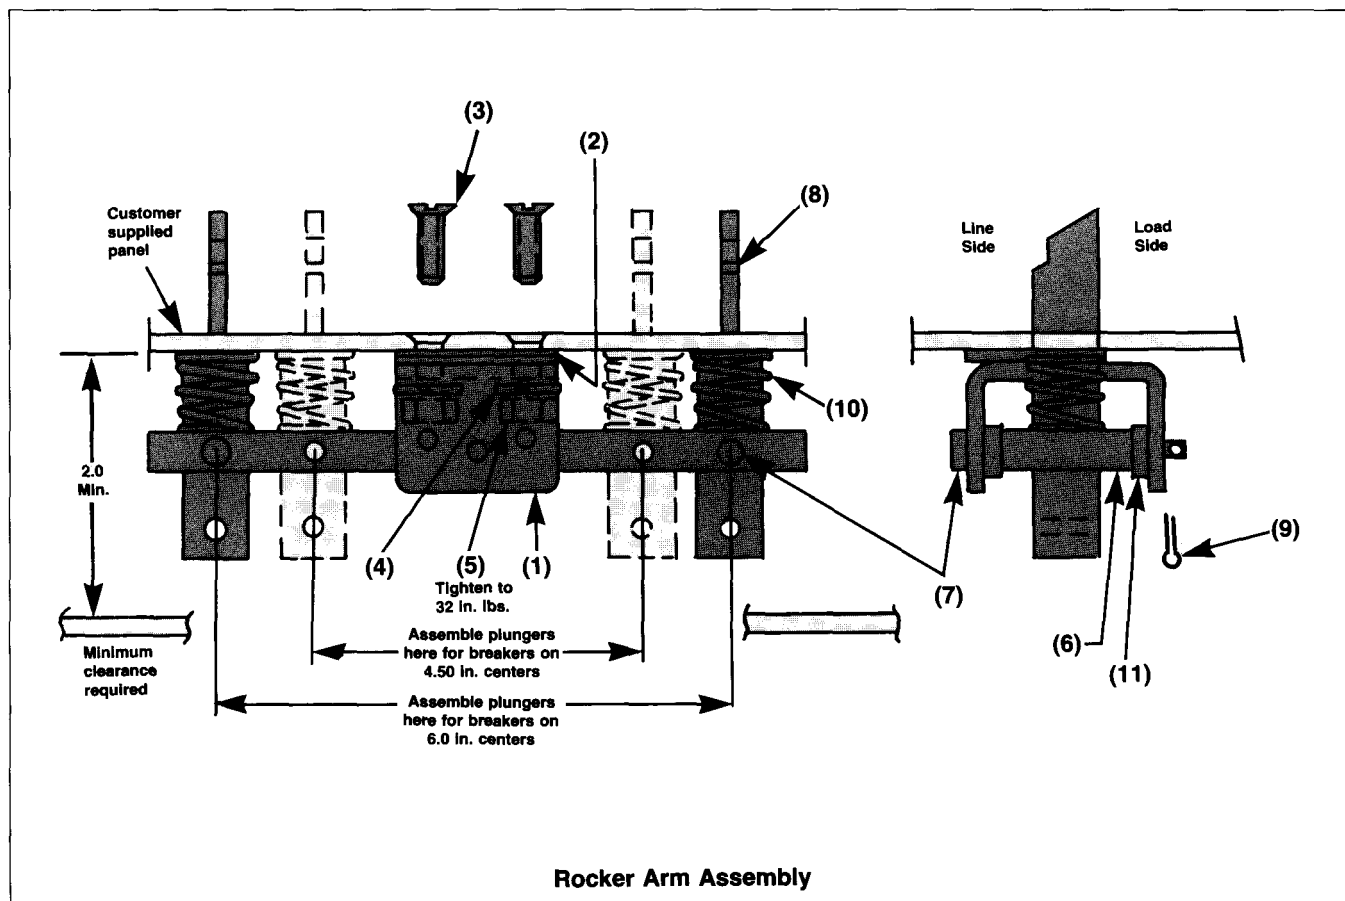

Figure 4
Rocker Arm Assembly (Figure 4)
- Attach rocker arm (6) to the support (1) using the rocker arm pin (7). Washers (11) must be located inside the support, with one on each side of the rocker arm. Insert cotter pin (9) into hole of pin (7) and spread ends.
- Place one centering spring (10) between the panel and the rocker arm, centering it over the correct hole, as shown in Figure 4. Insert the plunger (8) through the spring and rocker arm, being certain that the plunger is oriented as shown in Figure 4.
- Attach the rocker arm (6) to the plunger (8) using a rocker arm pin (7). Use the plunger hole closest to the circuit breaker for panel mounted breakers and the most distant hole for plug-in mounted breakers. Insert cotter pin (9) into hole of pin (7) and spread ends.
- If either circuit breaker cannot be turned ON, loosen the support screws (3) shown in Figure 4, and install one additional spacer (2). Retighten the screws to 32 in. lbs. Repeat step A. Additional spacers can be installed, if required.